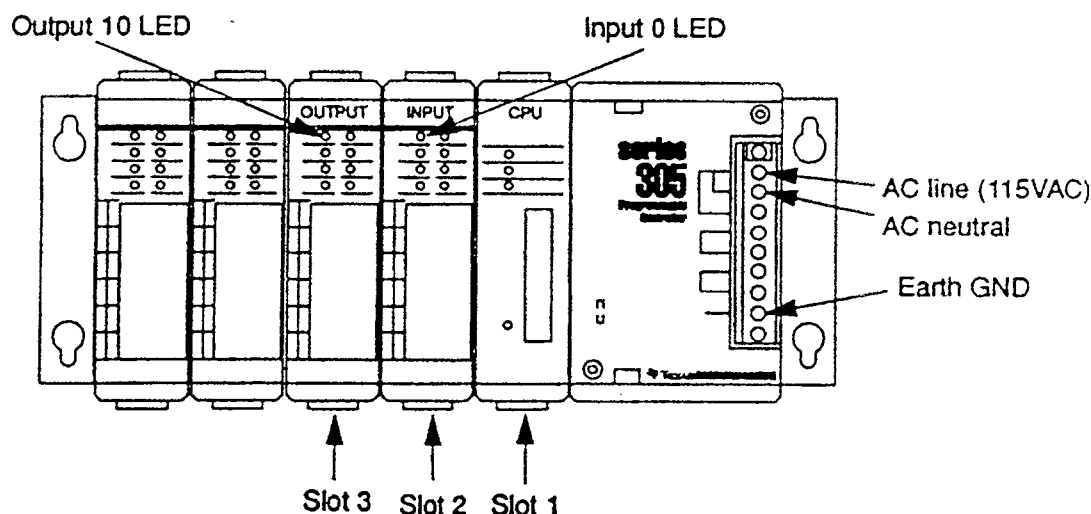

Figure 1-1 Model TI325/TI330 Controller
| | Figure 1-1 Model TI325/TI330 Controller | 1 |
3. Connect the controller to an AC power source. See Figure 1-1.
- Output 10 LED on the output module illuminates. See Figure 1-1.
- Close the switch hard-wired to the input module. The LED labeled 0 on the output module illuminates. See Figure 1-1.